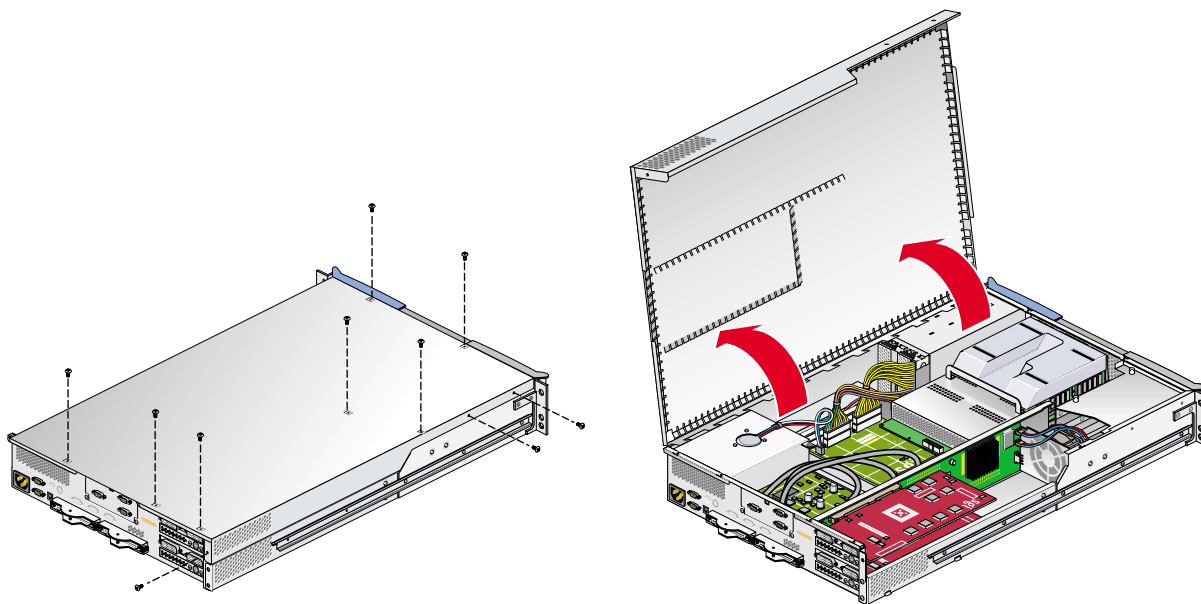

Figure A-6 Opening Module Cover to Install DIMMs
5. To access the DIMMs, remove the ten Phillips screws shown in Figure A-6 and lift and open the hinged cover.